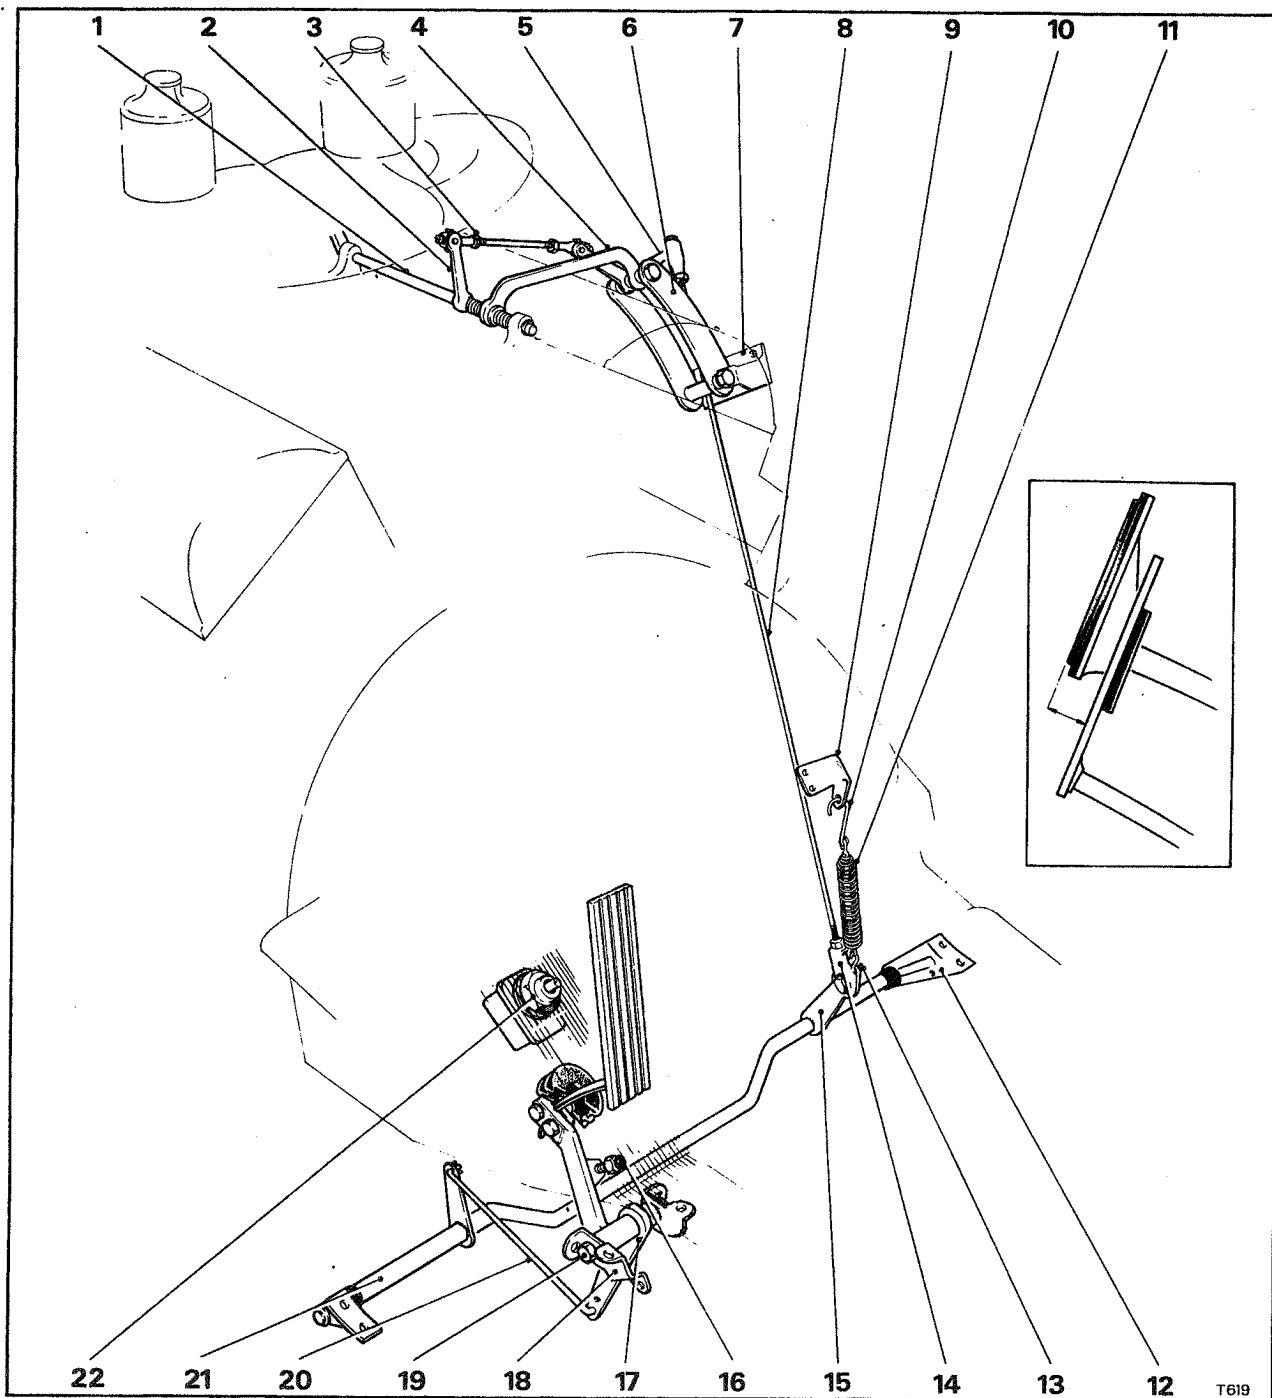

Fig. K99 S.U. carburettor accelerator pedal and isolator mechanism (left-hand drive cars)
14. Check that the mechanism moves freely by pressing downwards on the free end of the isolator bell-crank (item 5).
15. Assemble the long rod (item 8) with a distance of approximately 47,17 cm. (18.575 in.) between the inner faces of the lock-nuts; leave the nuts loose.
16. Check that the accelerator pedal is positioned between 6,35 mm. and 12,7 mm. (0.250 in. and 0.500 in.) below the brake pedal. If not, reset the off-stop screw (item 9).
17. Fit the jaw of the long rod (item 8) to the control operating lever (item 15); offer up the opposite end to the bell-crank lever (item 5). Adjust the length of the rod until there is a minimum amount of 'free-play' in the control system.
21. Set the height of the kickdown button (item 10). Ensure that 'pedal feel' is evident when kickdown occurs.
**Left-hand drive cars not fitted with an emission control system (see Fig. K99)**
1. Assemble the isolator rod (item 3) to give a distance of between 5,75 cm. and 5,84 cm. (2.265 in. and 2.300 in.) between the inner faces of the lock-nuts.
2. Set the accelerator pedal off-stop screw (item 16) to between 2,66 cm. and 2,71 cm. (1.050 in. and 1.070 in.).
#### Left-hand drive cars fitted with an emission control system (see Fig. K99)